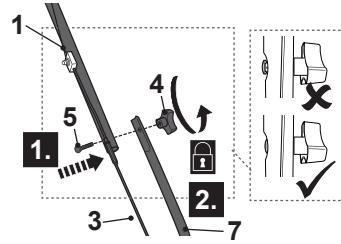

Fig. 3
4. Pass the remaining mounting bolt through the mounting holes to the end (Fig. 3, step 1).
5. Make sure the brake wire (3) run on the upper handle bar (1).
6. Secure the bars on the other side by turning the remaining mounting knob (4) through the thread of the mounting bolt (5) (Fig. 3, step 2).